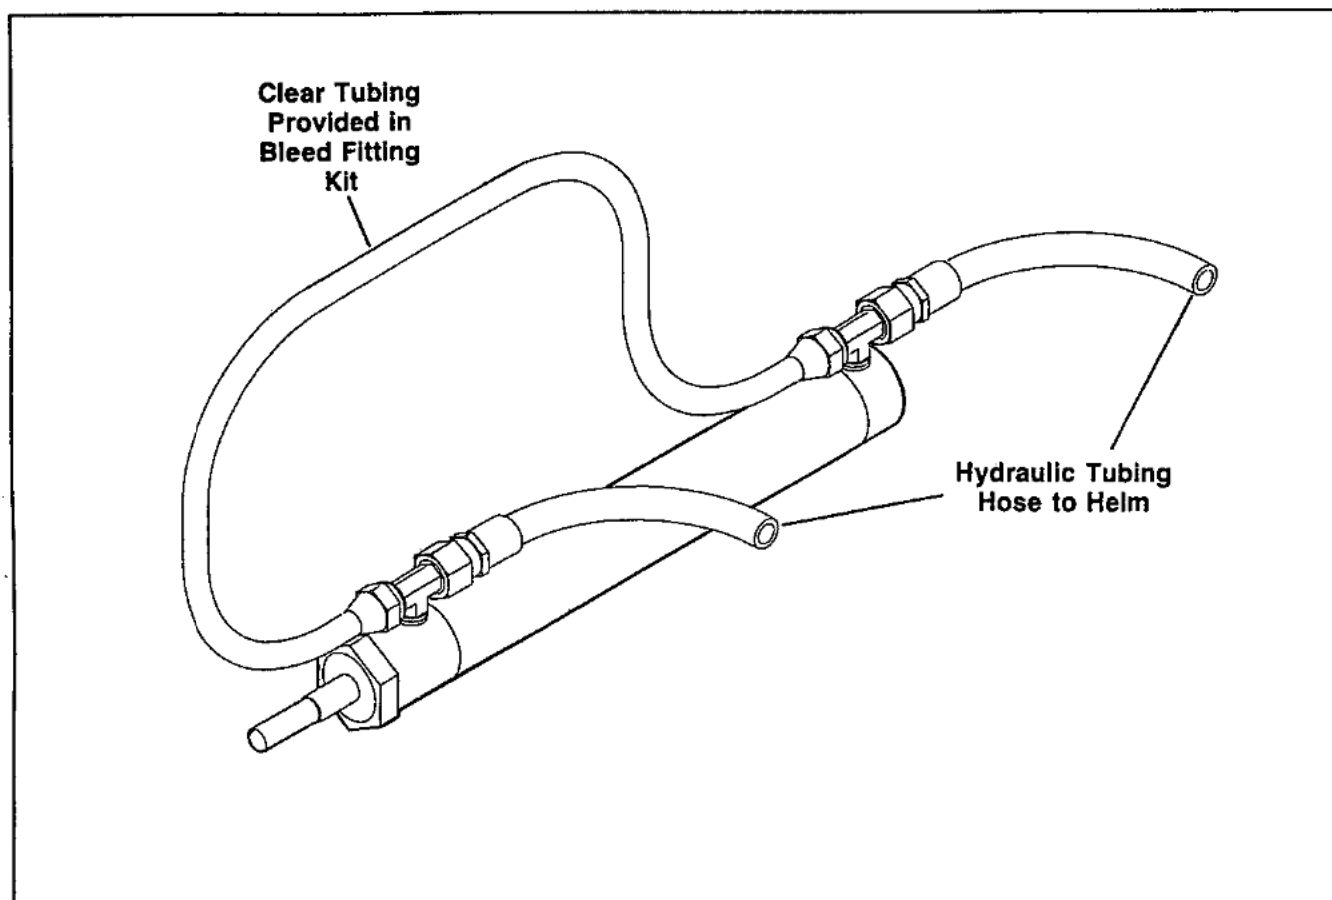

Figure 1
2. Clean the ends of the bleed fittings thoroughly, being sure they are free of any oil and dirt. Connect the bleed fittings by sliding each end of the 3 Ft. long clear tubing onto the bleed fitting nipples. See **Figure 1**.